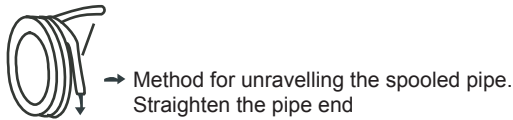

Fig.6-3
b. Bend the thin-wall connective pipe (See Fig.6-3)